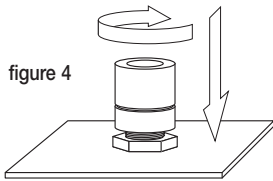

figure 4
5. Place the threaded **retainer** over the top of the **sleeve** and gently tighten the cap until it is snug and the top of the **sleeve** is properly seated in the cap. Do not over-tighten as the **sleeve** may break (See figure 4).